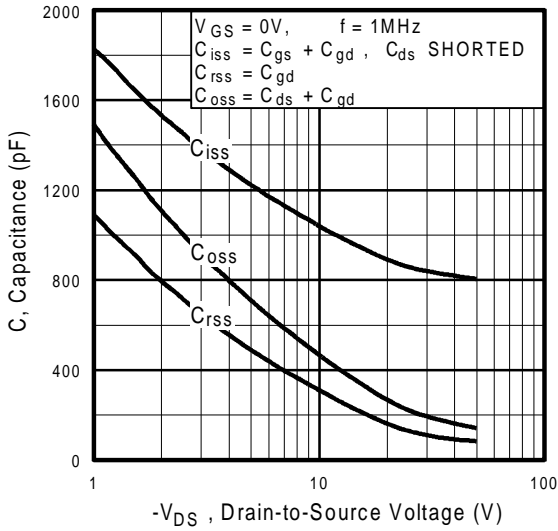

Fig 5. Typical Capacitance Vs. Drain-to-Source Voltage
| C _{rss} | Reverse Transfer Capacitance | — | 130 | — | | f = 1.0MHz, See Fig. 5⑥ |